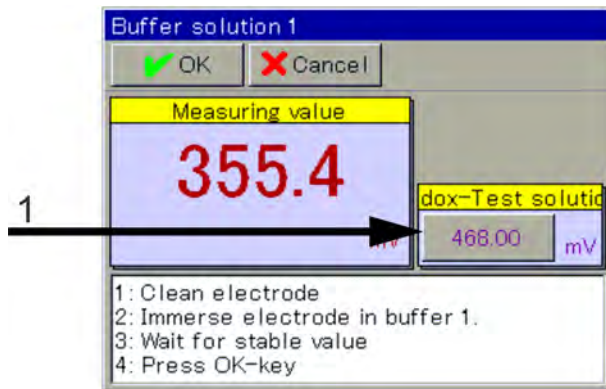

Fig. 67: For manually changing the redox value of the test solution, push the button (1)
3. Verify that the "Redox test solution" is the redox value of the test solution. The "Redox test solution" value is taken from the calibration presets. This can be changed manually. (See Fig. 67 .)